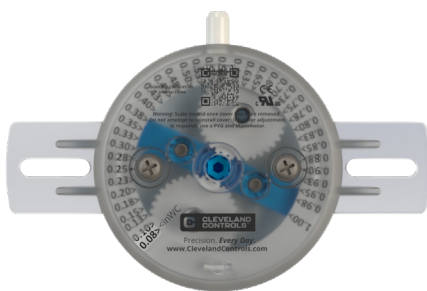

Figure 1 Viewing Window ANS2-1000
- Use a $\frac{7}{64}$ " Allen key in the keyhole to adjust the set point viewable in the adjustment cover viewing window as shown in Figure 1.